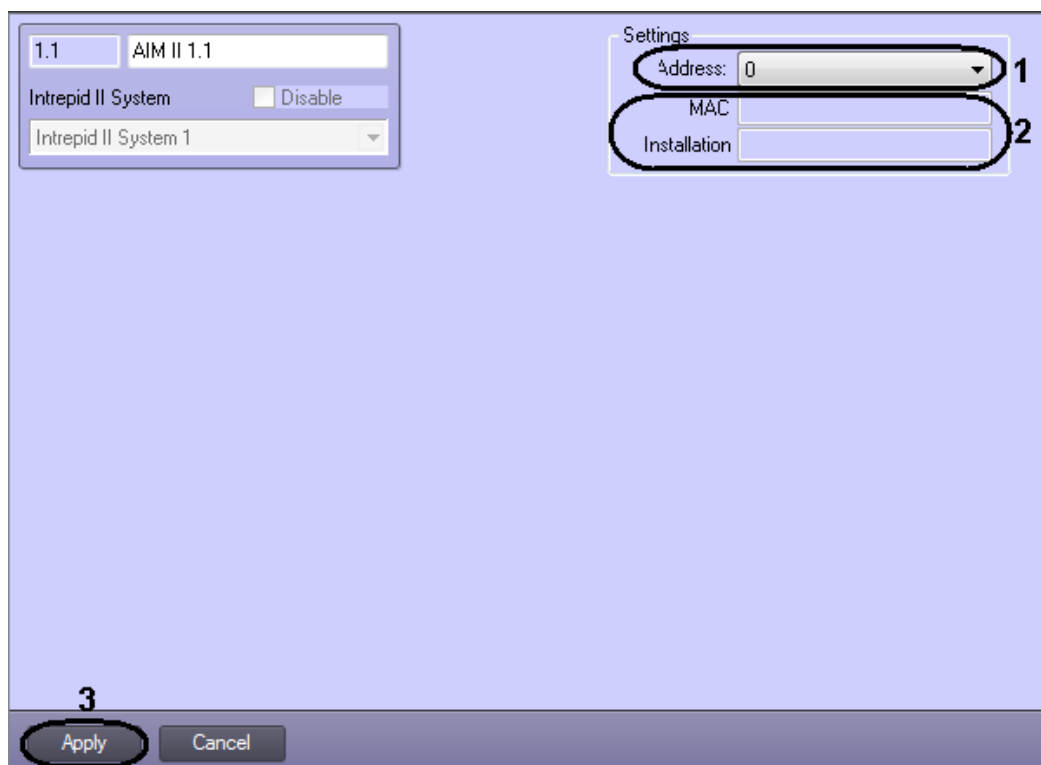

Fig. 3.4—2 Configure the Intrepid II System controller
2. The value specified while auto creating the objects tree is set In the **Address:** drop-down list (Fig. 3.4—2, 1). It is possible to change this address. To change the controller address, do the following: